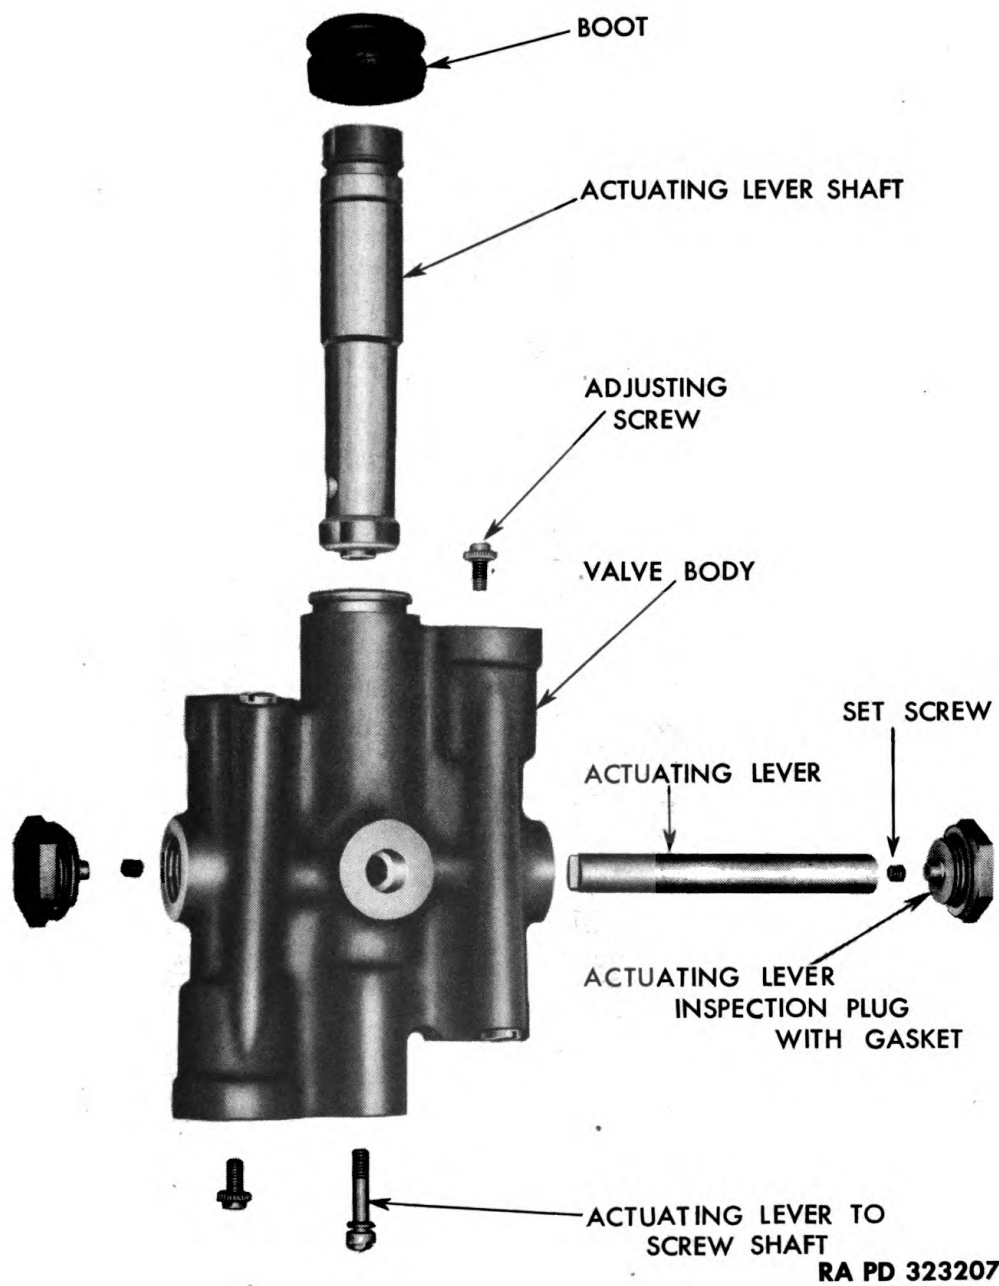

Figure 212 — Actuating Lever and Shaft Removed
(7) **REMOVE OPPOSITE INLET CHECK VALVE INLET PISTON AND EXHAUST CHECK VALVE**. Reclamp valve body in vise with actuating lever shaft up. Repeat operations in steps (4), (5), and (6).
(8) **REMOVE ACTUATING LEVER INSPECTION PLUGS** (fig. 212). Remove plug with gasket from each side of valve body.
(9) **REMOVE ACTUATING LEVER** (fig. 212). Insert safety screw wrench ($\frac{3}{16}$ -in.) through inspection plug holes, and remove set screws from both ends of actuating lever. Insert screwdriver through inlet port holes in valve body, and remove two adjusting screws from actuating lever. Insert screwdriver through yoke threaded hole in valve body, and remove actuating lever to shaft screw and lock washers. Slide actuating lever out of valve body through inspection plug opening.
(10) **REMOVE ACTUATING LEVER SHAFT** (fig. 212). Remove boot, and pull shaft from valve body.
(1) **INSTALL ACTUATING LEVER SHAFT** (fig. 212). Clamp valve body in vise, and insert actuating lever shaft in valve body with cross-hole in shaft in line with inspection plug holes.
(2) **INSTALL ACTUATING LEVER** (fig. 212). Insert actuating lever through inspection plug hole, and through cross-hole in shaft. Insert actuating lever to shaft screw and lock washer through yoke threaded hole in valve body, and install it into actuating lever and shaft. Tighten securely. Insert adjusting screws through inlet port holes in valve body, and screw them down tight on actuating lever; then turn